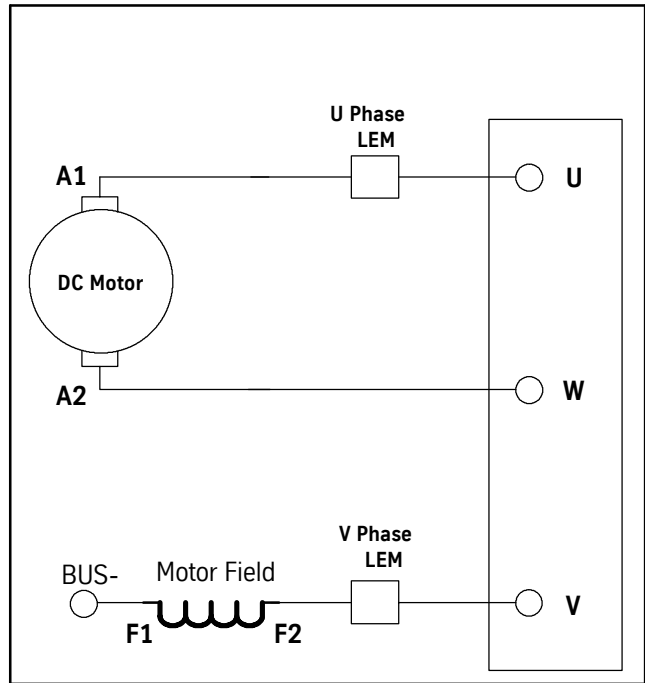

Figure 13 - DC Motor Output Wiring without Motor Contactor
- **Installations WITHOUT Motor Contactor: See Figure 13.**